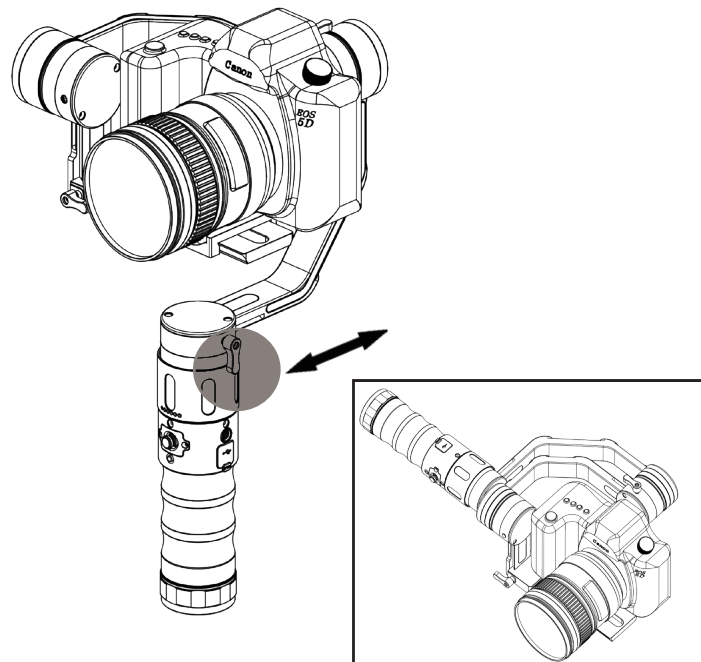

Fig. 8. Pan balance adjustment
- Loosen the pan motor left thumb screw (Fig. 8).